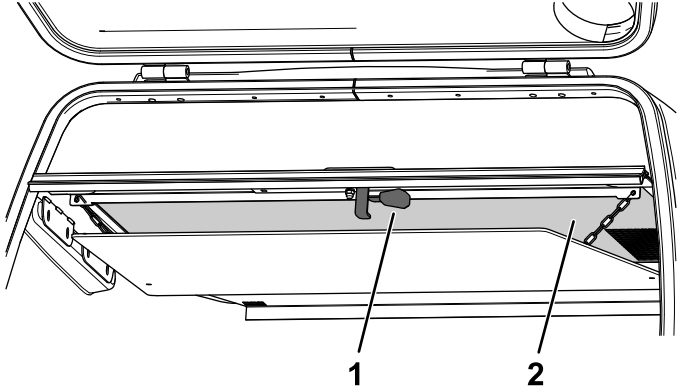

Figure 111
2. Pull the release lever on the bottom of the hopper screen downward (Figure 111).